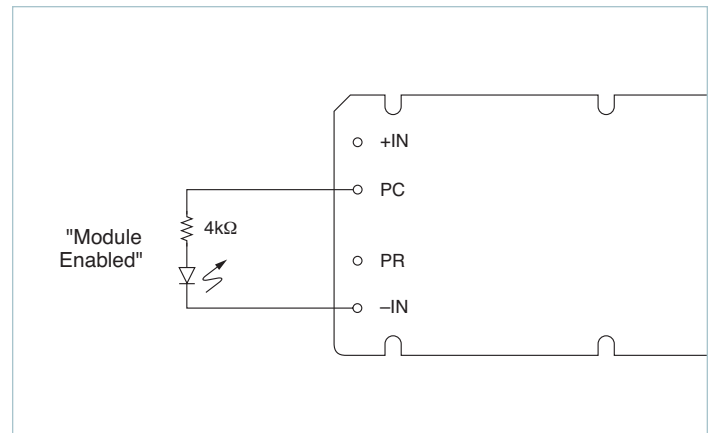
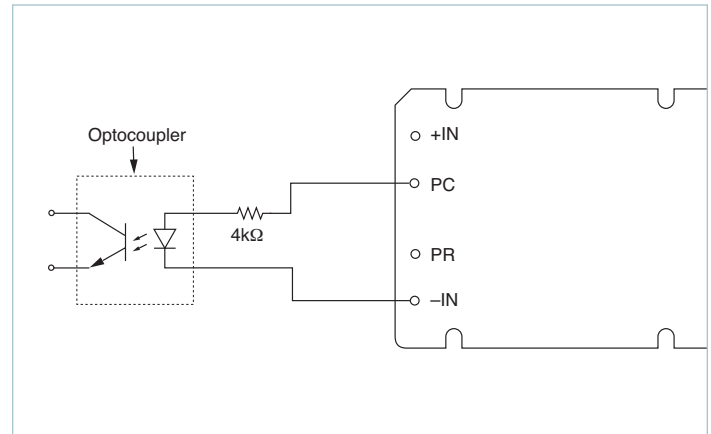

Figure 2.3 — LED on-state indicator
Figure 2.5 — Isolated on-state indicator
**Primary Auxiliary Supply:** At 5.75V, the PC can source up to 1.5mA. In the example shown in Figure 2.3, PC powers a LED to indicate the module is enabled. Another example of an isolated on-state indicator is shown in Figure 2.5.